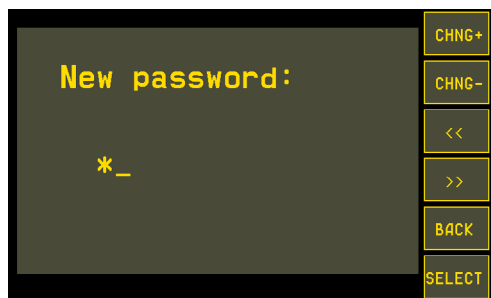

Fig.29. New password setup.
- select Main menu/Settings/Change password. To access the Settings menu, enter the device current password (Fig.29);